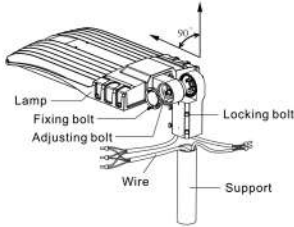

Figure 1-1
- 1: Loosen the 4 locking bolts on the slip fitter, connect the wire correctly and put the wire into pole. Then fasten the locking bolts between slip fitter and the pole. (Figure 1-1)
- 2: Loosen the fixing bolts and adjusting bolts, align the fixture to required angle. Tighten adjusting bolt and fixing bolts after the angle is confirmed. (Figure 1-1)